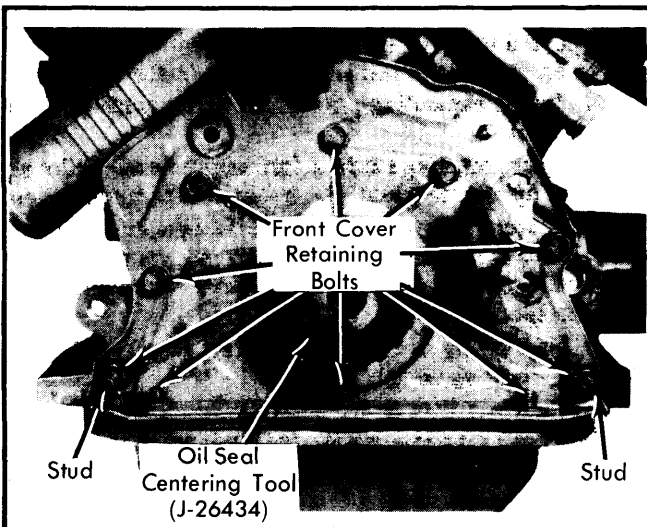

Fig. 4 Installing Front Engine Cover. Note Centering Tool is Fitted Through Oil Seal Hole in Cover
2) Use aligning tool (J-26434) to properly center front cover seal on crankshaft. See Fig. 4. Complete installation by reversing removal procedure.
Removal & Installation — Remove front cover and pry seal out with large screwdriver. Be careful not to bend cover during this operation. Place open end of new seal toward inside of front cover. Reinstall cover, using aligning tool (J-26434) to center seal on crankshaft. See Fig. 4.